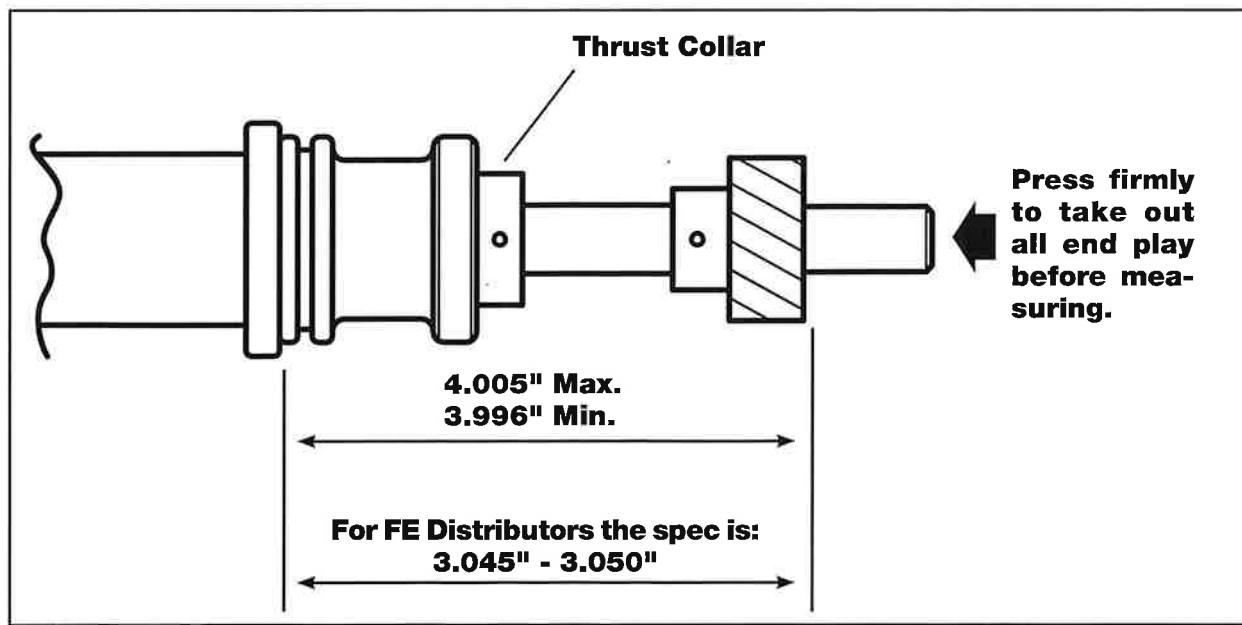

Figure 1 Gear Installation Specifications
1. With the endplay of the distributor shaft removed, measure the distance from the bottom of the gear to the bottom of the mounting flange (Figure 1). It should be within the specifications shown.
5. Press the new gear into position on the shaft. Measure the distance as shown in Figure 1 before drilling the new roll pin hole.